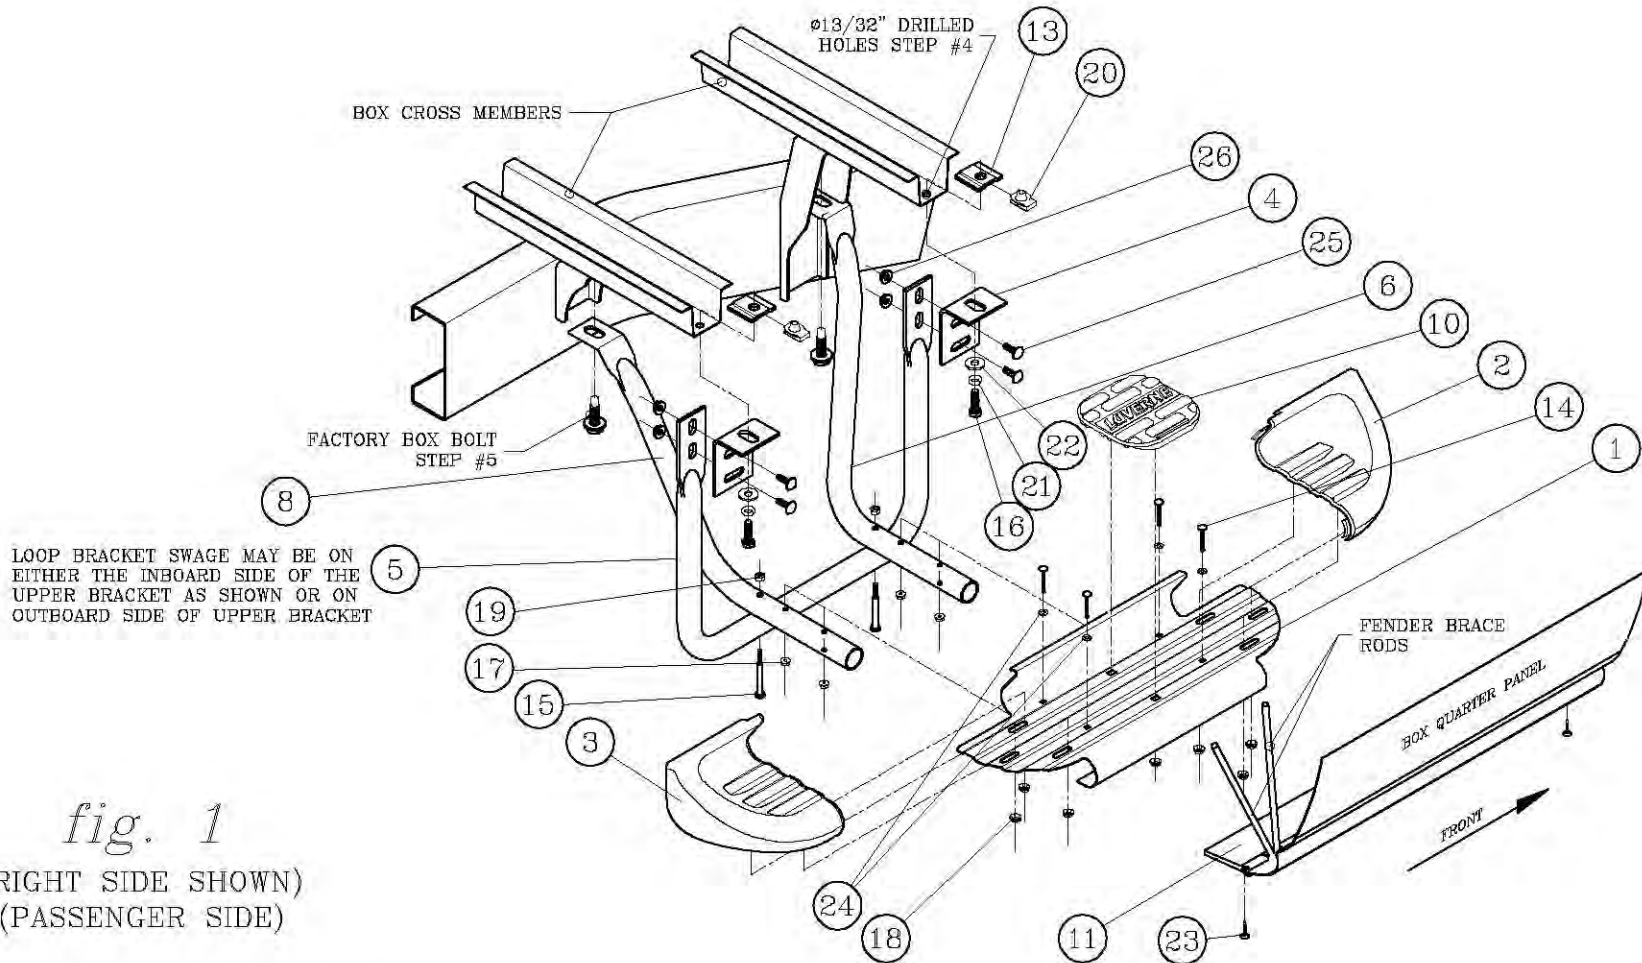
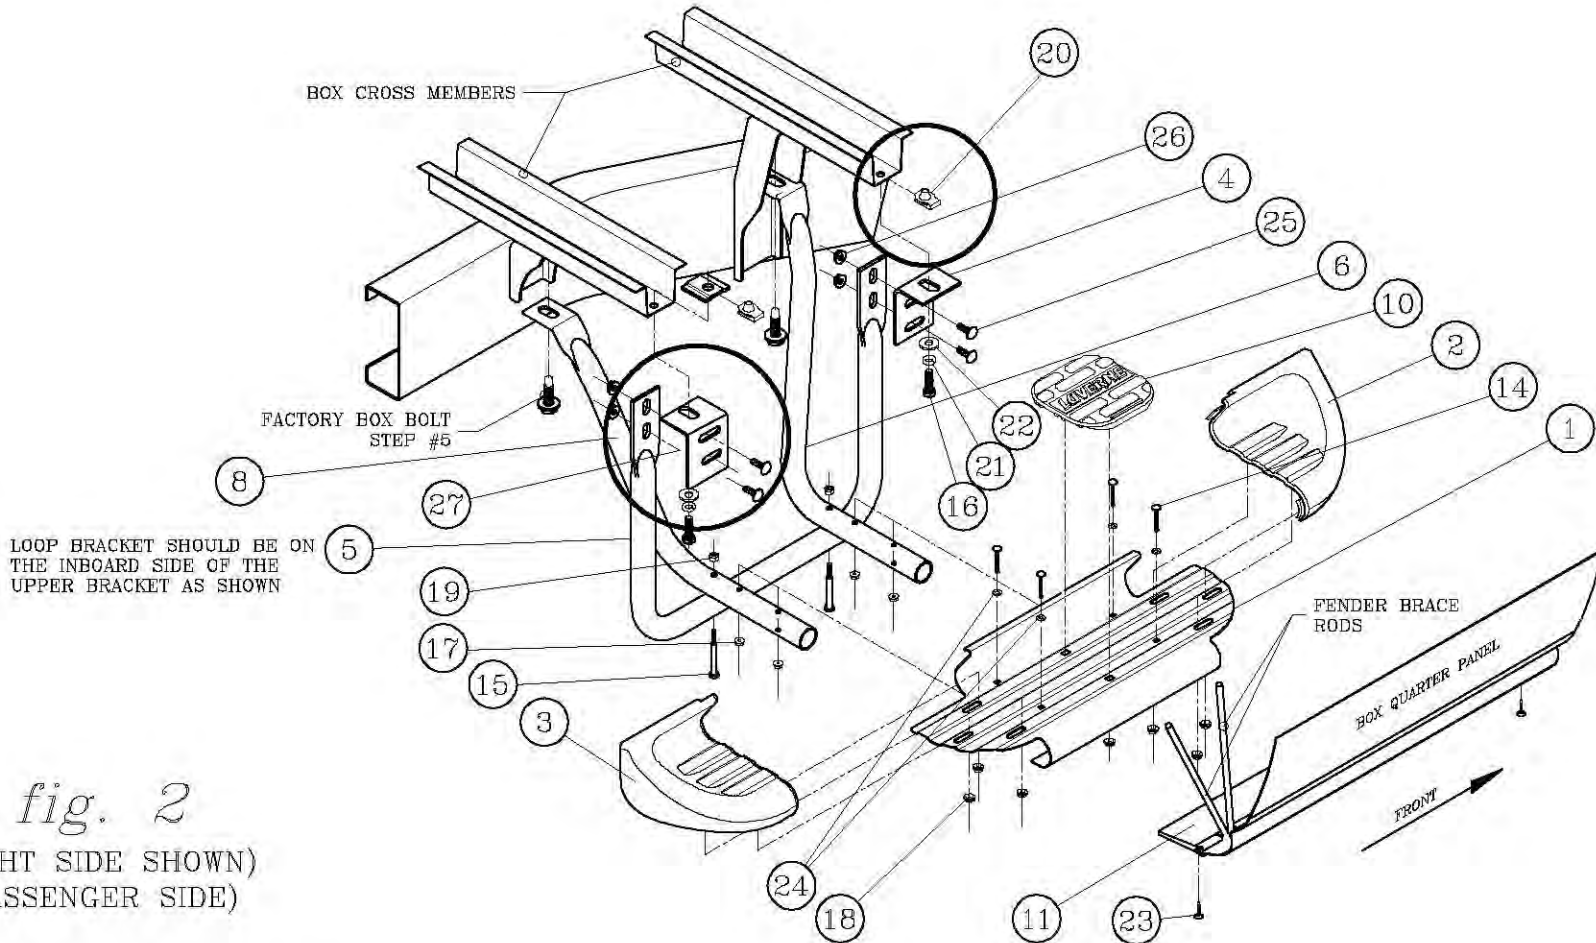

fig. 1
fig. 2
- 3.1 ASSEMBLE THE FRONT AND REAR RIGHT HAND BRACKET TUBES (ITEMS #6 & #8) TO THE BRACKET LOOP (ITEM #5) USING THE ¼-20 X 2-3/4" HEX BOLTS (ITEM #15) AND THE ¼-20 NY-LOCK NUTS (ITEM #19) AS SHOWN IN FIG.1. **[FIG. 2 IS FOR 2007+ VEHICLES]**
- 3.2 ATTACH THE STEP PLATE ASSEMBLY (ASSEMBLED ITEMS #1, #2, #3, #10 & #18) TO THE MOUNTING BRACKET TUBES (ITEMS #6 & #8) USING THE #10-24 X 1-1/2" CARRIAGE BOLTS (ITEM #14), NEOPRENE WASHERS (ITEM #24) AND THE #10-24 FLANGE NUTS (ITEM #17) AS SHOWN IN FIG. 1. **[FIG. 2 IS FOR 2007+ VEHICLES]**
4. MARK THE END OF THE TWO (2) BOX CROSS-MEMBERS IN THE CENTER (1" FROM THE SIDE) AND ½" IN FROM THE END, AND DRILL A 25/64" OR A 13/32" DIAMETER HOLE. SEE FIG. 1.
5. REMOVE THE TWO (2) FACTORY BOLTS THAT SECURE THE BOX TO THE FRAME.
6. ATTACH THE UPPER MOUNTING BRACKETS (ITEM #4) TO THE BOX CROSS-MEMBERS AS FOLLOWS: INSTALL THE 3/8" U-NUTS (ITEM #20) TO THE NUT PLATES (ITEM #13) AND INSERT THEM INTO THE END OF THE BOX CROSS-MEMBER. INSTALL THE 3/8-16 X 1-1/4" HEX BOLTS (ITEM #16), FLAT WASHERS (ITEM #22) AND LOCK WASHERS (ITEM #21) UP THRU THE OBOURND HOLE IN THE MOUNTING BRACKET AND INTO THE U-NUT (ITEM #20). LEAVE THESE FASTENERS FINGER TIGHT. **[FIG. 2 IS FOR 2007+ VEHICLES WHICH WILL NOT REQUIRE ANY DRILLING].** USE BRACKET (ITEM #27) INSTEAD OF (ITEM #4) ON THE REAR APPLICATION.